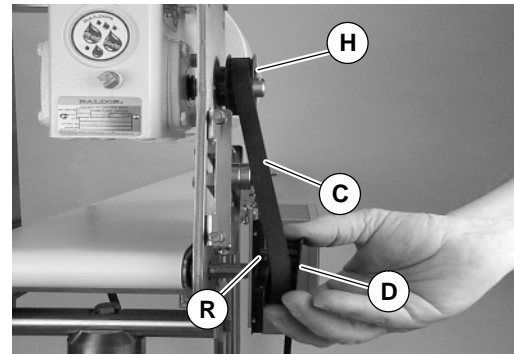

Figure 18
3. Remove timing belt (C).
**NOTE:** If timing belt does not slide over pulley flange, loosen driven pulley set screws (R of Figure 18) and remove pulley with belt. For re-installation, see steps 5 and 6 on page 6.